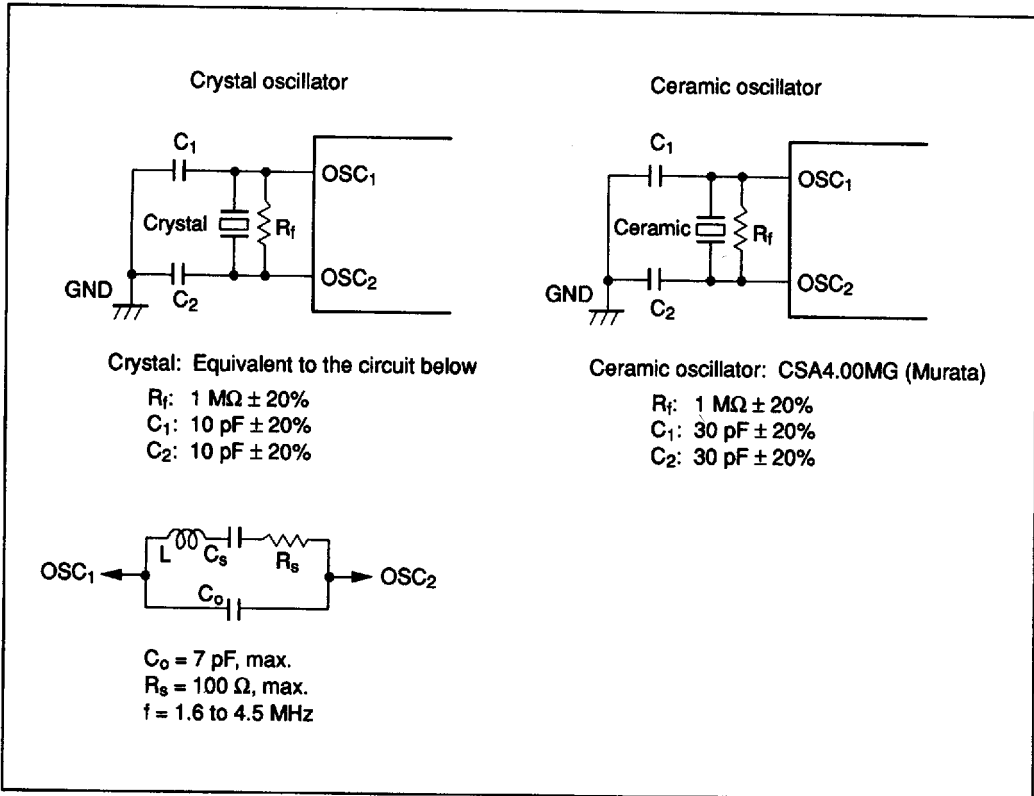

Figure 56 Oscillation Circuits (1)
1. The oscillation stabilization time is the period required for the oscillator to stabilize after V_{CC} reaches 3.0 V (3.5 V if $V_{CC} = 3.5$ to 6.0 V: HD404720/HD404728/HD404729; $V_{CC} = 3.5$ to 5.5 V: HD4074720/HD4074729) at power-on or after RESET input goes high after stop mode is cancelled (figure 56). At power-on and when stop mode is cancelled, RESET must remain high for at least t_{RC} to ensure the oscillation stabilization time. If using a crystal oscillator, contact the manufacturer to determine what oscillation stabilization time is required, since it depends on the circuit constants and stray capacitances.